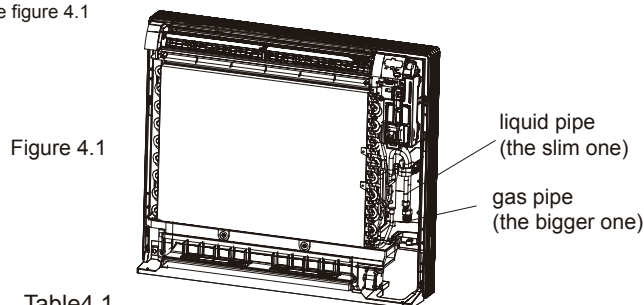

Figure 4.1
- All gas and liquid piping must be properly insulated; otherwise, this may cause water to leak. Use heat insulation materials that can withstand high temperatures above 120°C to insulate the gas pipes. In addition, the insulation of the refrigerant piping should be reinforced (20 mm or thicker) in situations where there is high temperature and/or high humidity (when part of refrigerant piping part is higher than 30°C or when the humidity exceeds RH80%). Otherwise, the surface of the heat insulation material may be exposed. The sizes of copper pipe see table 4.1 and position of gas&liquid pipe see figure 4.1